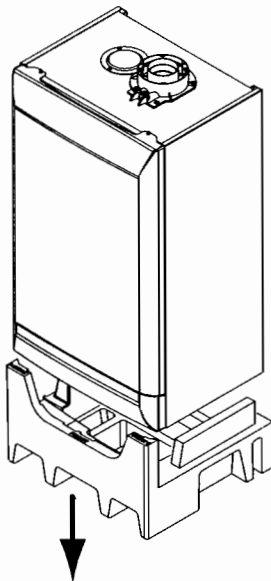

Fig. 18a
2. Pull the lower polystyrene cap off the boiler (Fig. 18a). Ease the boiler forwards and remove the sealing caps from the boiler connections.